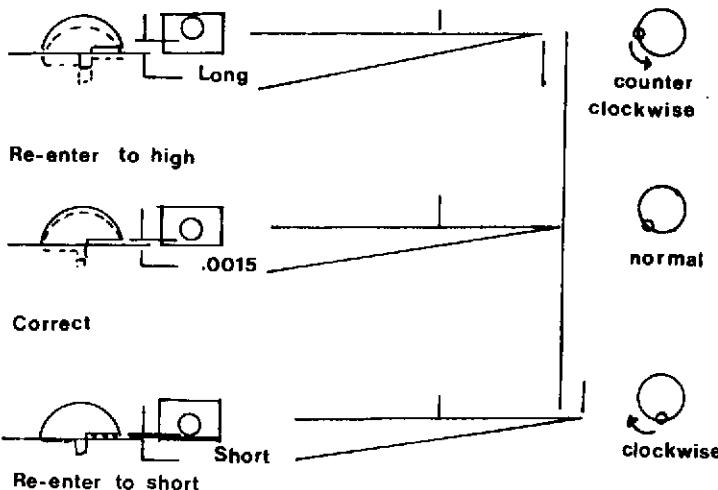

Figure 3-35. PULL DOWN STROKE SETTING
1. Adjust protrusion and if claw arm has been removed, set pivots as shown in Fig. 3-35.